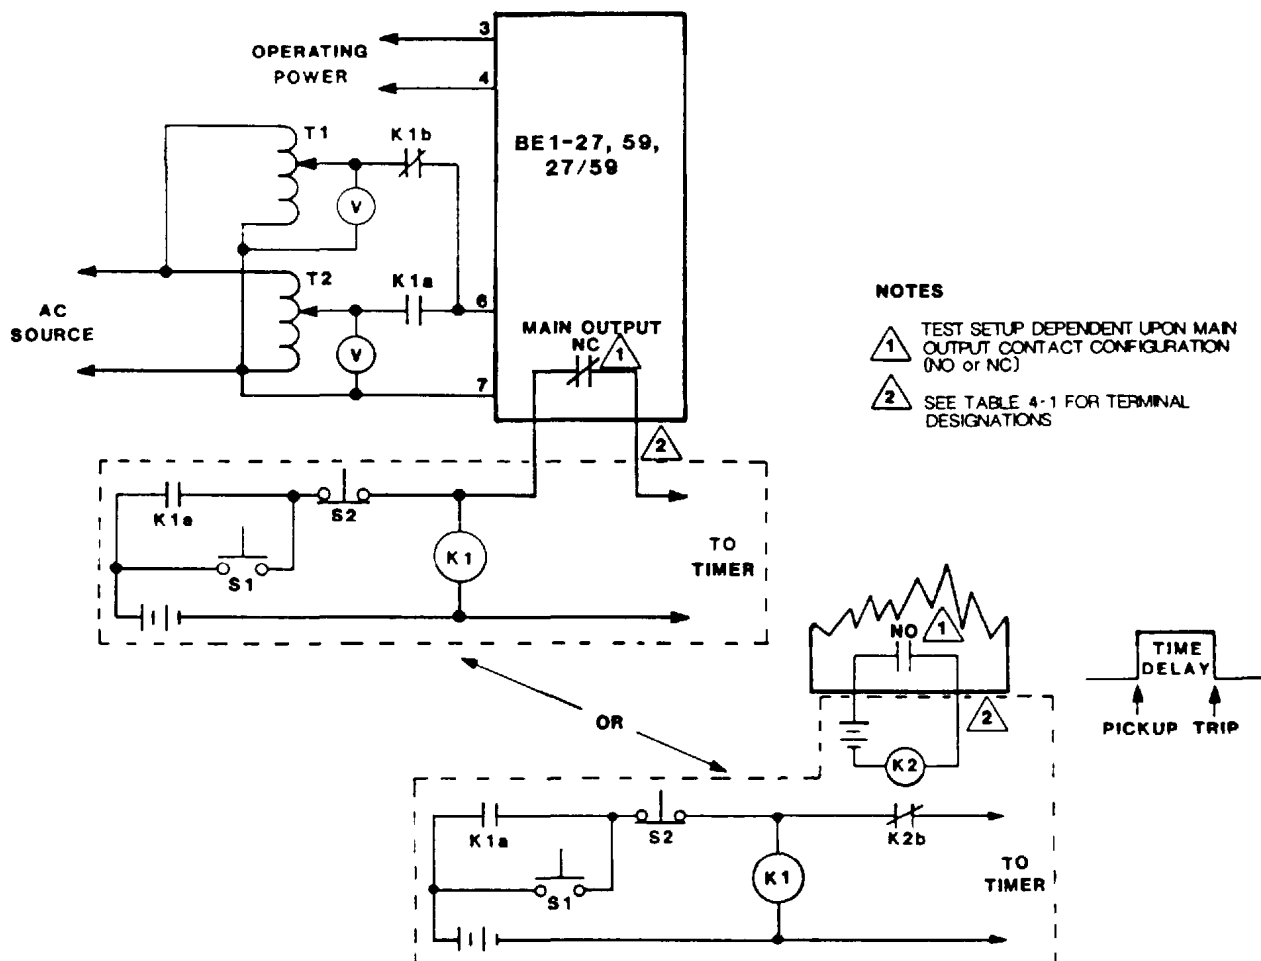

Figure 4-2. Timing Test Circuit Diagram
STEP 9. Connect the test circuit shown in Figure 4-2. Output terminal connections are dependent on the function to be tested. (See Table 4-1.)